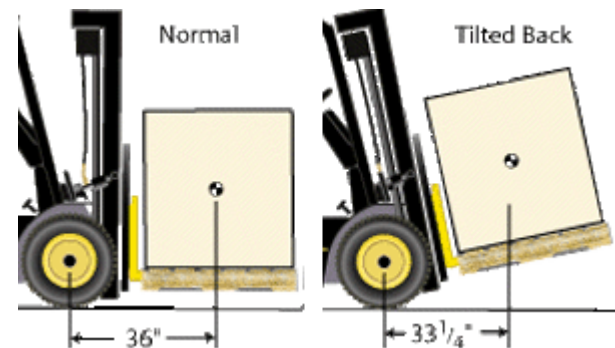

Figure 1. Tilting the mast back reduces the load distance and makes the load safer to carry.
- Tilt the mast back and position the heaviest part of the load against the carriage. (Figure 1)